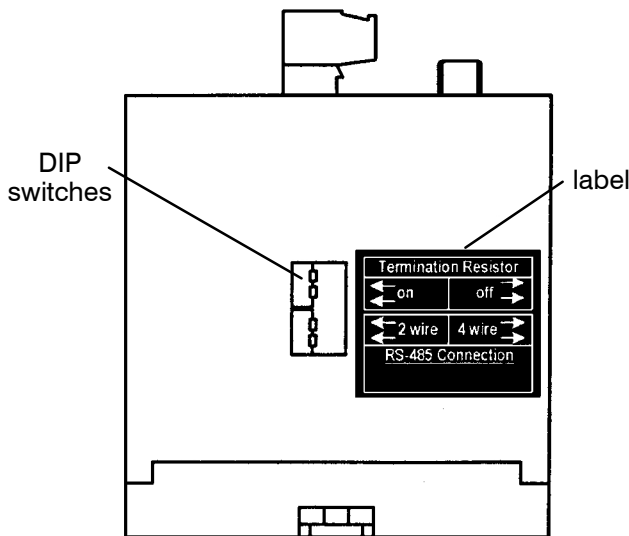

Figure 4. Termination resistor DIP switches on bottom of Serial Module. Must be ON for ATS farthest away from the host device.
4. When daisy chaining multiple ATSs, the ATS the **farthest distance** from the controlling device must have a termination resistor. The Serial Module has a built-in termination resistor that can be connected by moving two DIP switches to ON (see Figure 4).